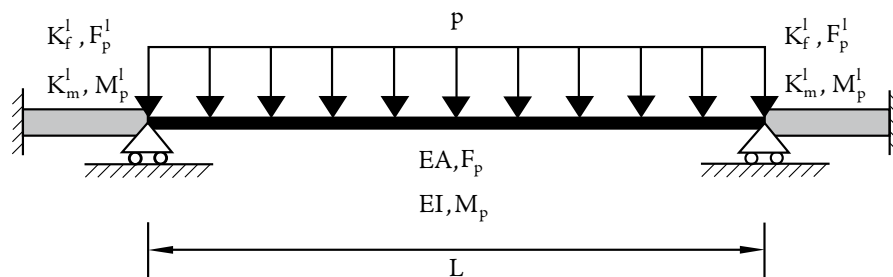

Figure 1, Geometric configuration and boundary conditions
- The member has two end supports where transverse displacements are restrained (Figure 1).
- Arbitrary elastic perfectly plastic conditions are to be considered for the two end supports for both rotational and axial deformations (Figure 1)